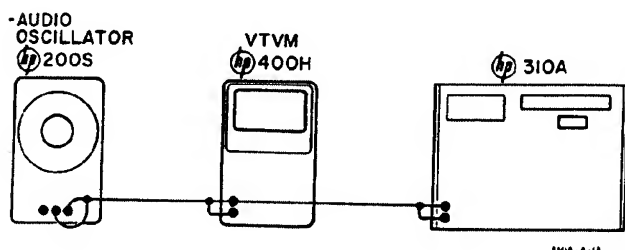

Figure 5-2. Voltage Accuracy Check
- a. Connect equipment as shown in Figure 5-2.